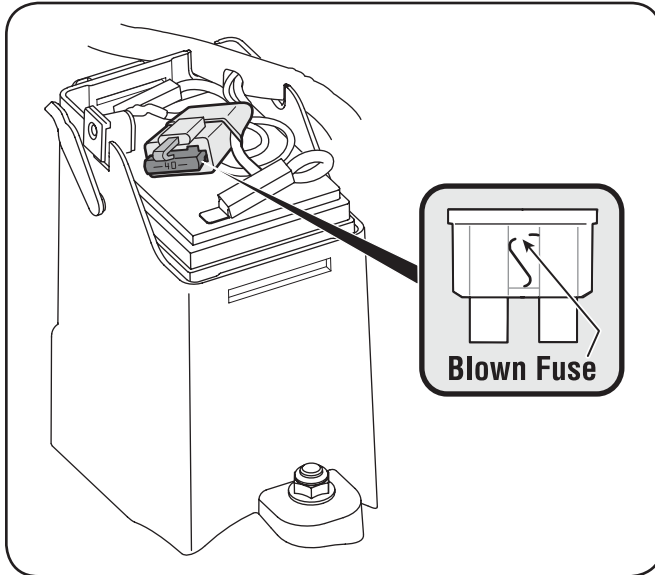

Figure 7-5
2. Remove fuse from socket and inspect as shown in Fig. 7-5. If it is burned out, replace with standard automotive 40 ampere fuse.